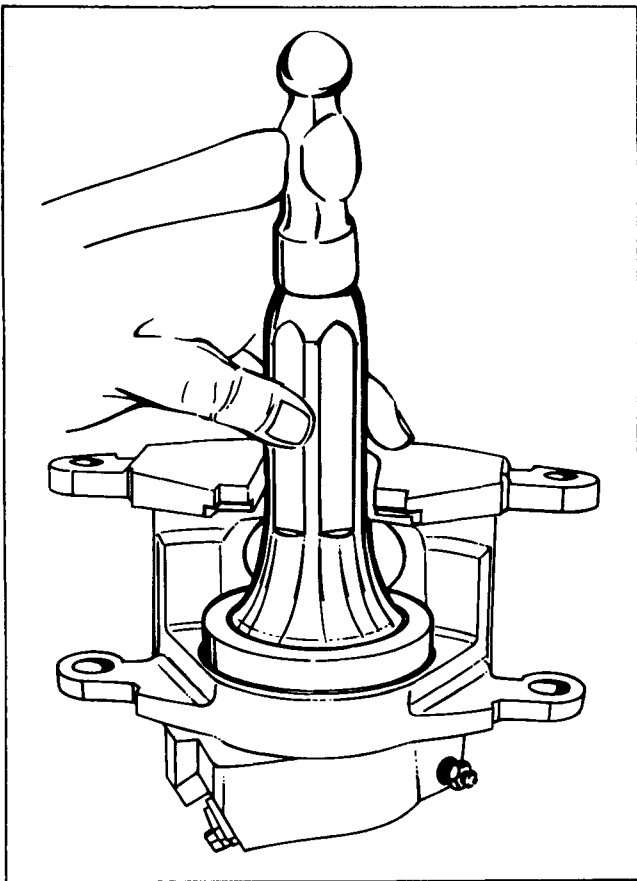

Fig. 5E-16 Seating Boot
2. Position the boot in the caliper counterbore and seat with tool J 22904 (Fig. 5E-16). Check the boot installation to make sure that the retaining ring molded into the boot is not bent and that the boot is installed fully -- below the caliper face -- and evenly all around (Fig. 5E-9). Otherwise dirt or moisture may enter the bore and cause damage or corrosion.